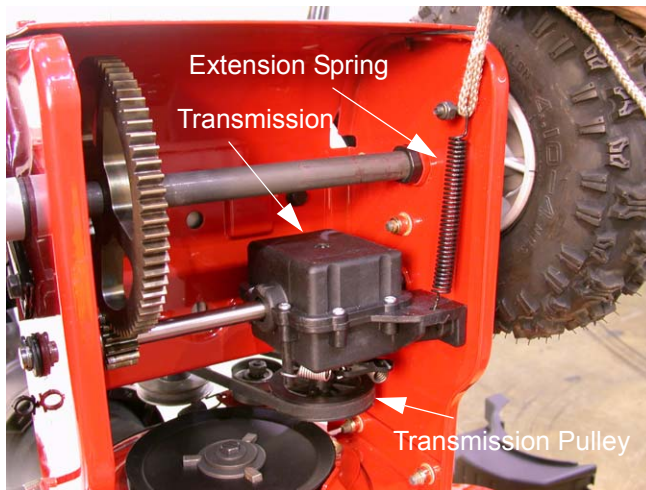

Figure 9.3
- 9.3. Remove the tension spring attached to the frame and transmission. See Figure 9.3.